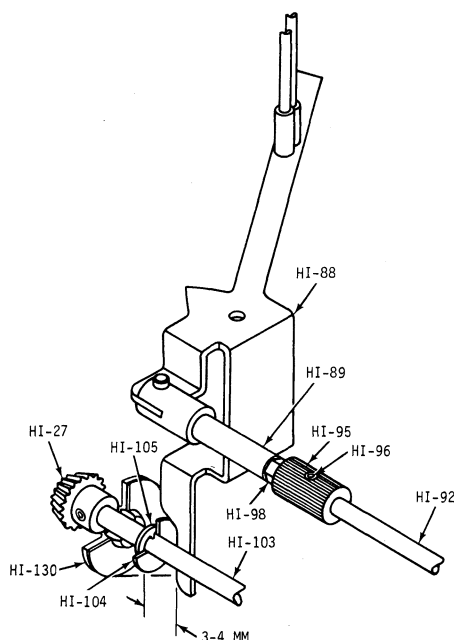

Figure 5-8. RIBBON REVERSING ROD ADJUSTMENT
2. With right bevel gears engaged (HI-27, 59), (right side, rear view) adjust gap between washer (HI-104) and ribbon reverse control arm (HI-88) between 3 and 4 millimeters (0.12-0.16-in.) by rotating ribbon reversing rod (HI-92) to control the distance. (Refer to Figure 5-8)